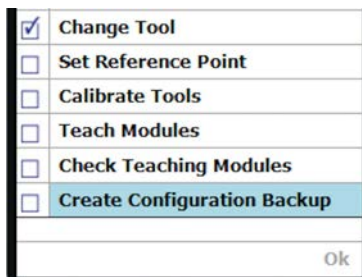

Figure 5-24. New calibration menus
7. For each tool, a new reference must be set, see Figure 5-24.